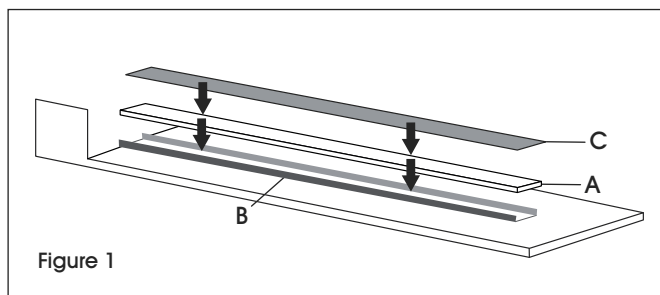

Figure 1
2. Place new silicone rubber pad (A) inside metal channel (B). (See Figure 1)
4. Apply the dark brown 10 mil Teflon Tape (C) to top of silicone rubber pad (A). (See Figure 1)
6. Apply light brown 3 mil Teflon tape to flexboard over nichrome sealing wire (F).